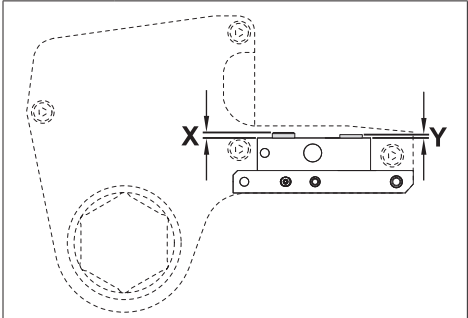

Fig. 19
- Check for the correct height for the drive unit retaining pin (K10) and the fail safe retaining pin (K11). See Figure 19, dimensions "X" and "Y".